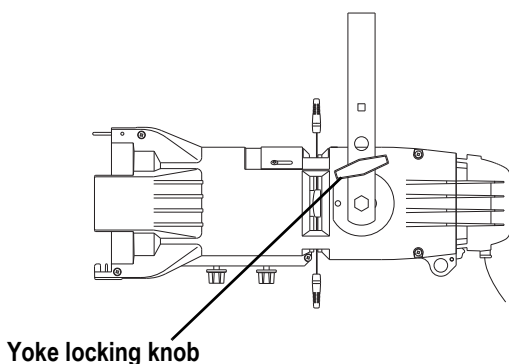

Figure 10
- Step 1: Loosen the yoke locking knobs (see Figure 10). **Do not** remove them.